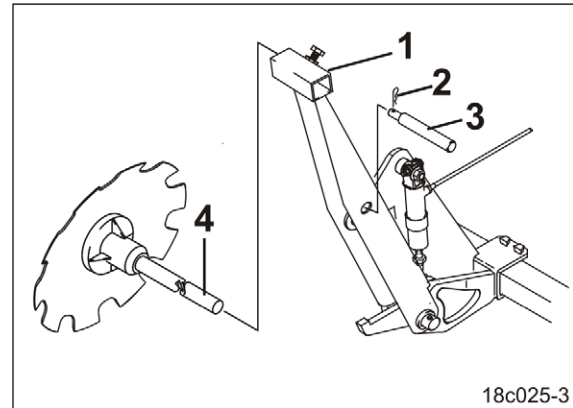

Fig. 155
1. Secure the track disc carrier (Fig. 155/1).
2. Remove the lynch pin (Fig. 155/2).
3. Withdraw the pin (Fig. 155/3).
9. Insert the track discs (Fig. 155/4) into the track disc carriers.
During transport, store the track discs (Fig. 155/4) in a suitable stowing space.